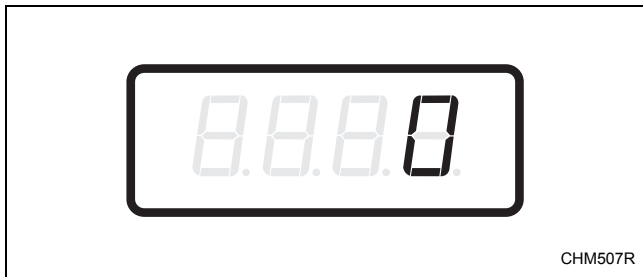

Figure 20
2. When “SA12” appears in the display, press the START (enter) keypad. There are five digits in the Special Vend A Vend Price #2. The fifth digit will appear in the display and will flash one second on and one second off. Refer to *Figure 20*.